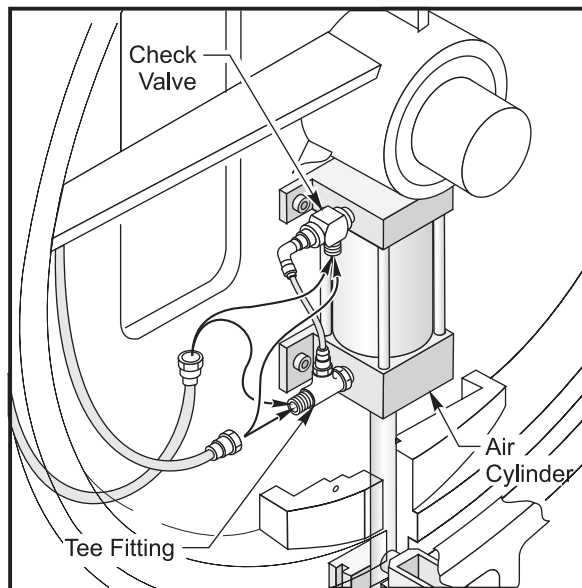

Figure 3.12-8 Airline connection location
5. At the top of the ATC assembly, reverse the two air lines going from the solenoid valve to the air cylinder. See Figure 3.12.8. Reconnect the air supply line at the rear of the machine. (The tool pocket holder in the tool change position should move down)